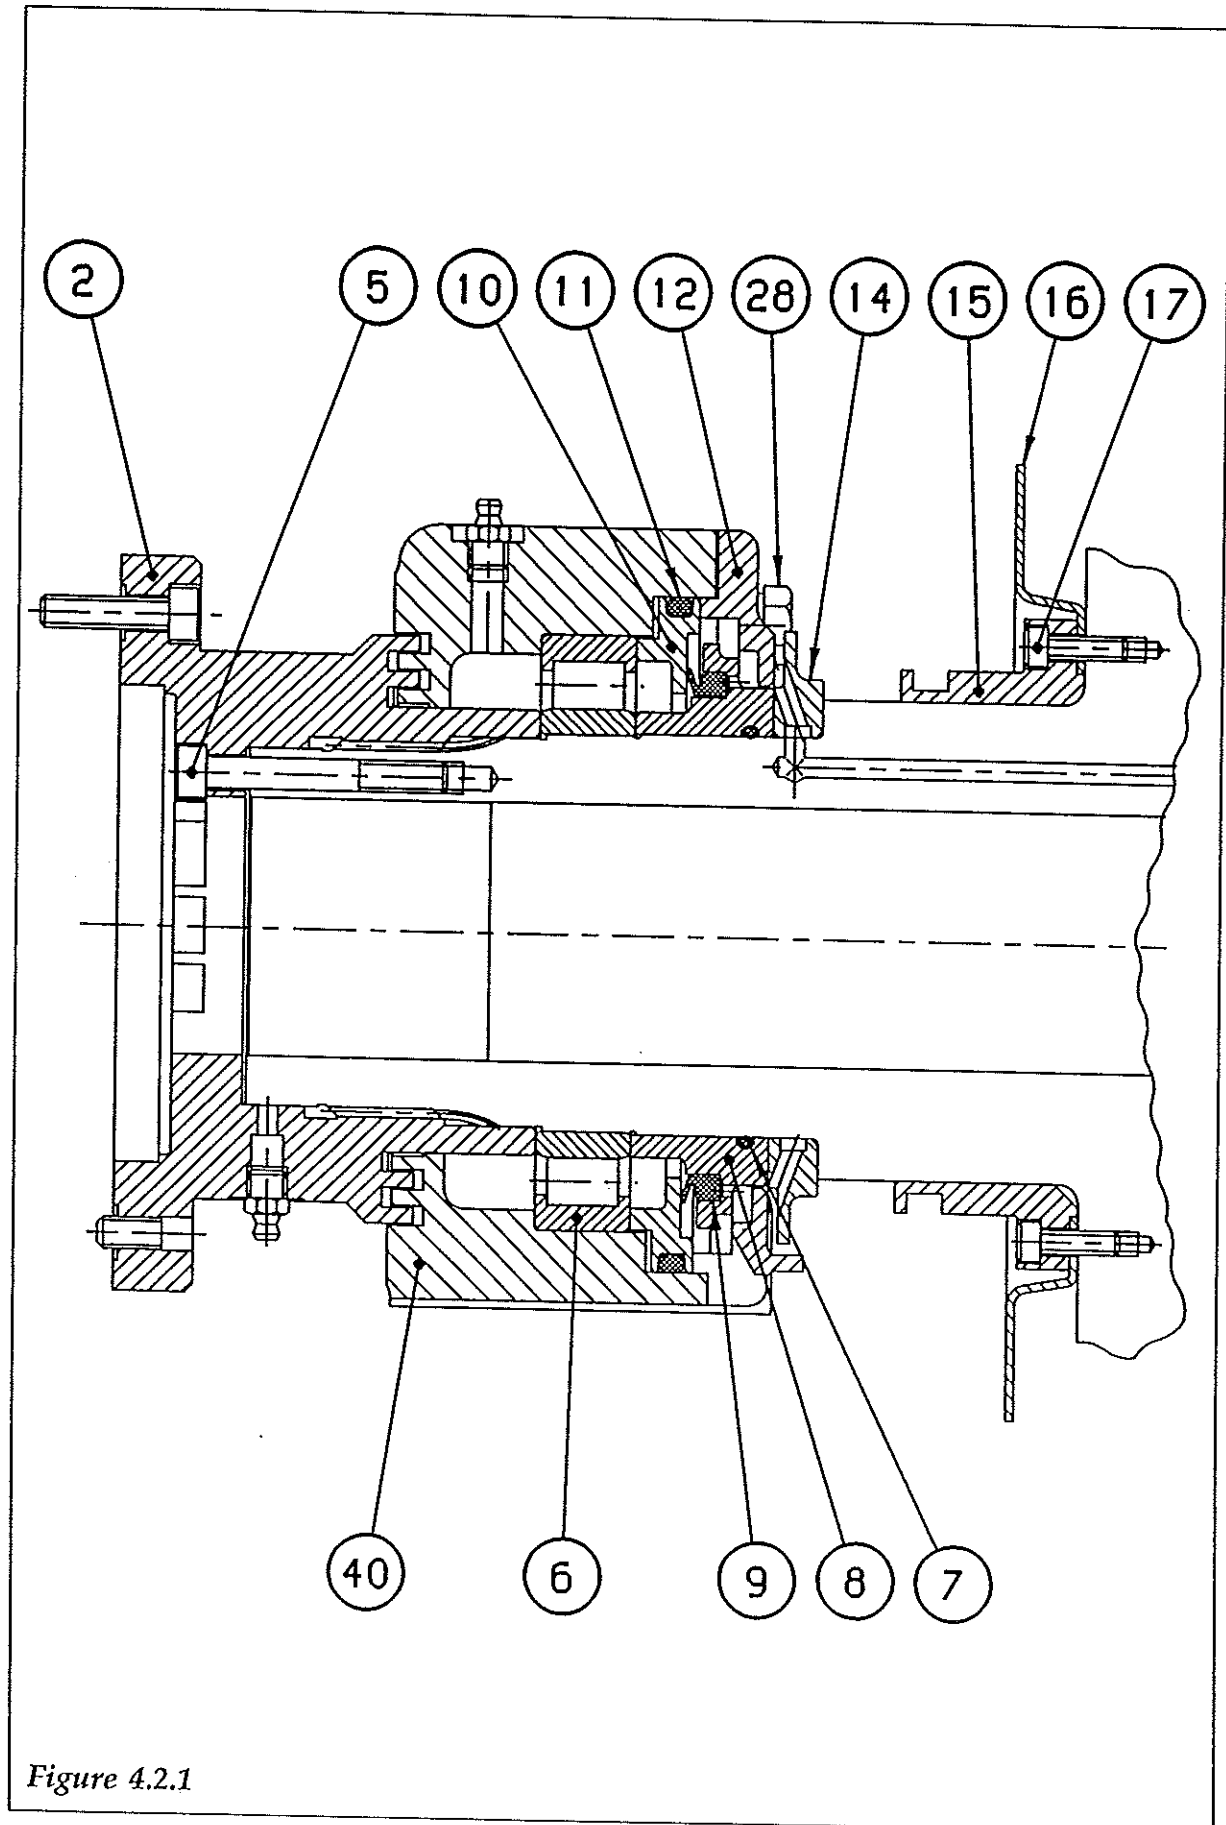

Figure 4.2.1
4.2.1 Disassemble Main Bearing Large End (Fig. 4.2.1)
4.2.2 Assemble Main Bearing Large End (Fig. 4.2.1)